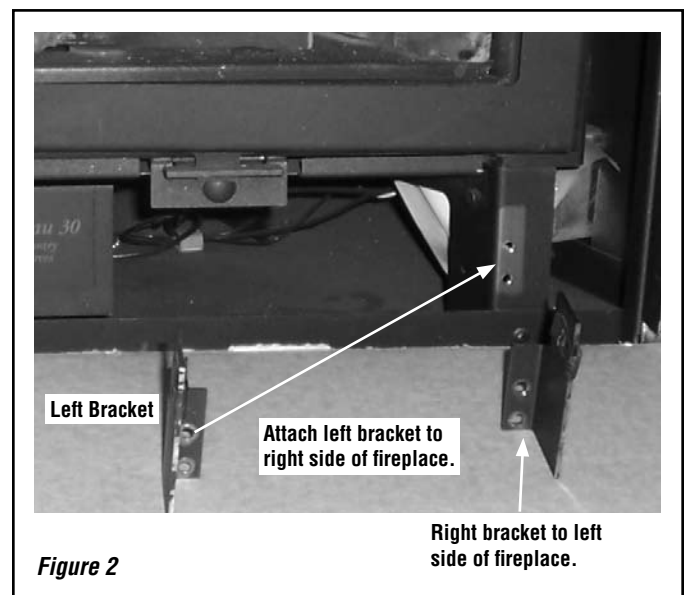
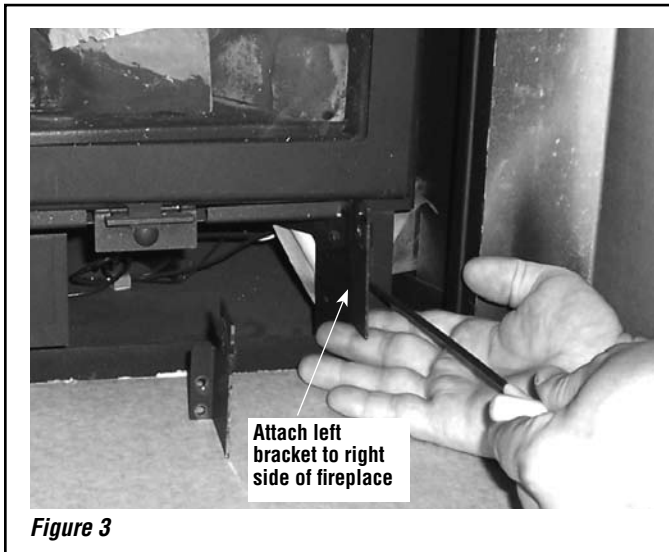

Figure 2
Figure 3
Step 1. Using a 5/32" allen wrench, remove the lower face mounting brackets from the unit and reverse their locations left to right (see **Figure 2**). Re-attach the brackets (see **Figure 3**) using the existing 10-24 screws. You will need to reverse the speed nuts so that the flat side is toward the center of the fireplace. The outside dimension between the brackets should be 28 inches.